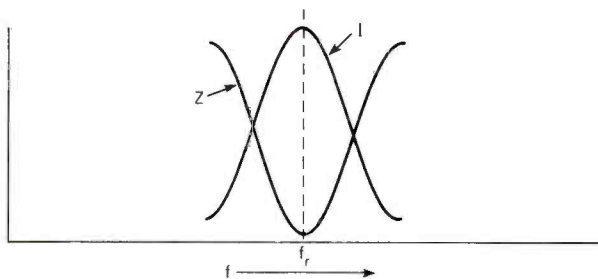

Fig. 5—In a series LCR circuit, at the resonant frequency the impedance is minimum while the current is maximum.
11. (resonance) We can draw a graph showing the variation of circuit impedance and circuit current as frequency varies. See Fig. 5. At resonance, the impedance is lowest ($Z = R$) so the current is the highest.